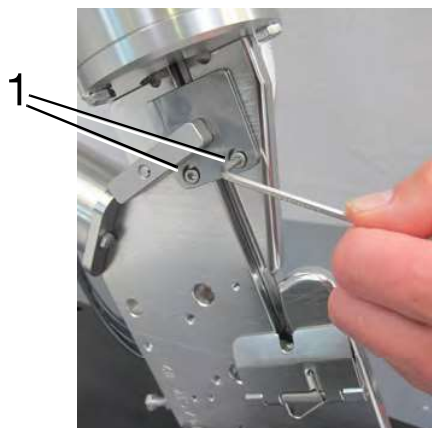

Fig. 7-17 1 Screws
- Loosen the screws (1, Fig. 7-17) on the cover of the clip window using the allen key.